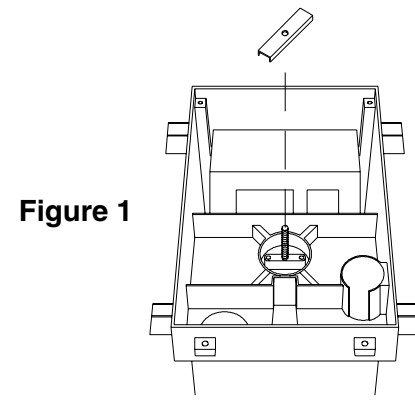

Figure 1
1. Remove ballast cover by slightly prying Z clamps. Do not bend so far as to permanently deform clamps! Lift off cover and set aside. Place U-shaped bracket on center bolt face-down. See Figure 1.